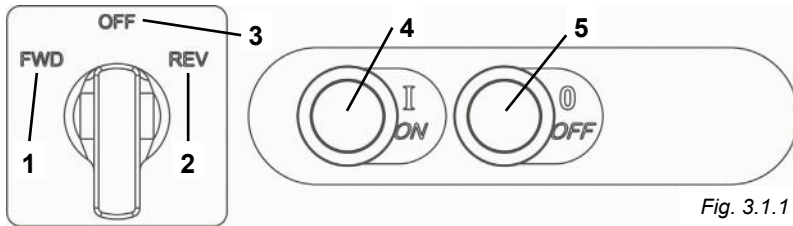

Fig. 3.1.1
Press the run button ("1", Fig. 3.1.1).
### 5.3 - Verification of the efficiency of the emergency stop button (Fig. 3.1.1)
### 5.4 - Machine start-up (Fig. 3.1.1)
To start the machine, press the button (4) after having set the selector switch to extruding mode (1) or kneading mode (3) Fig. 3.1.1, and after having correctly plugged the cable into the power socket: the machine will start. If the switch is set to OFF the machine will not start.
### 5.5 - Machine stop (Fig. 3.1.1)
To stop the machine, press the stop button "5" Fig. 3.1.1.
- 3. Start the machine in kneading mode by positioning the selector switch to position "1" FWD (Fig. 3.1.1)*
- 2. Start the machine in extruding mode by positioning the selector switch to position "2" REV (Fig. 3.1.1).*